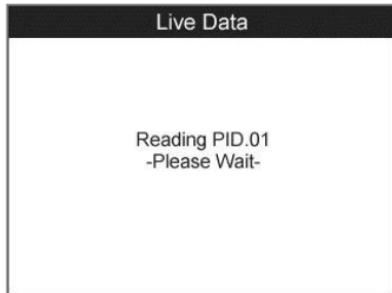

Figure 5.9
- 2) Wait a few seconds while the scan tool validates the PID MAP (*Figure 5.9*).